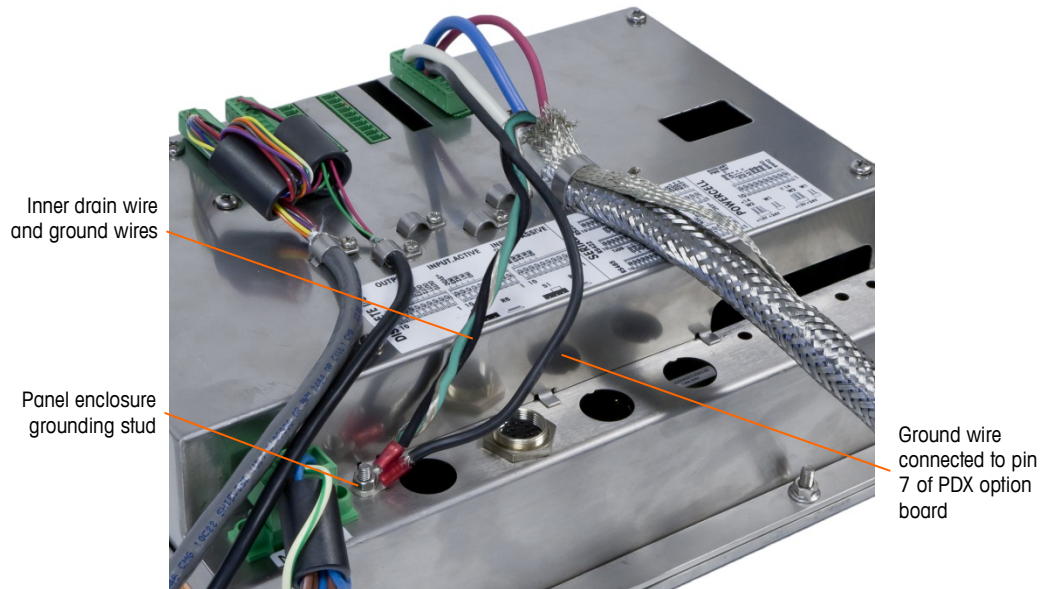

Figure A-67: Completed POWERCELL PDX Home Run Power Ground Connection, Panel Mount Enclosure
4. Twist the home run cable's inner drain wire together with the black and green ground wires and attach them to the external ground stud, as shown in Figure A-67.